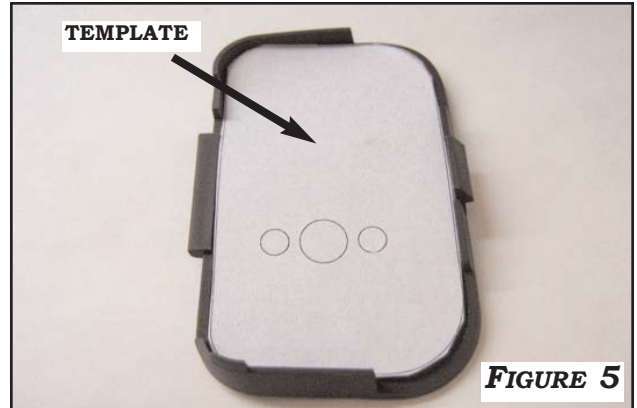

FIGURE 5
1. USING THE **SWITCH HOLE CUTTING TEMPLATE** ON PAGE 6, PLACE THE TEMPLATE ON THE INSIDE OF THE TRIM PIECE AS SHOWN AND DRILL A 1 1/2" HOLE INTO THE SHROUD FOR THE CONTROL SWITCH. **FIGURE 5**